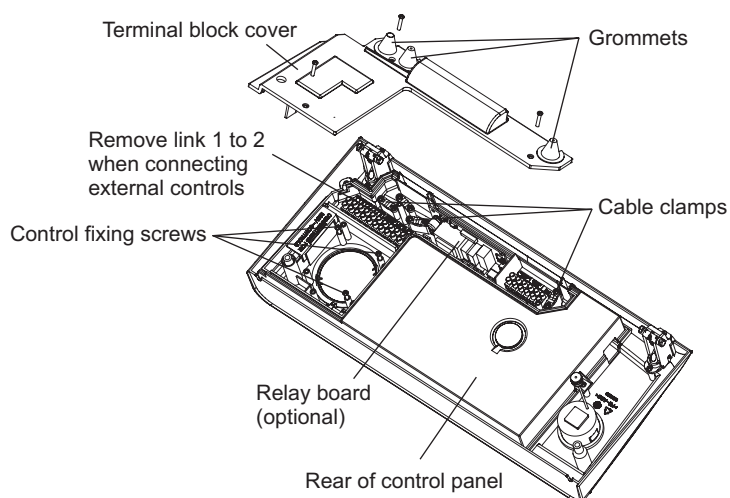

Fig. 17
4.11 FIT ALPHA CONTROLS (standard 240 V clock option) - Fig. 17